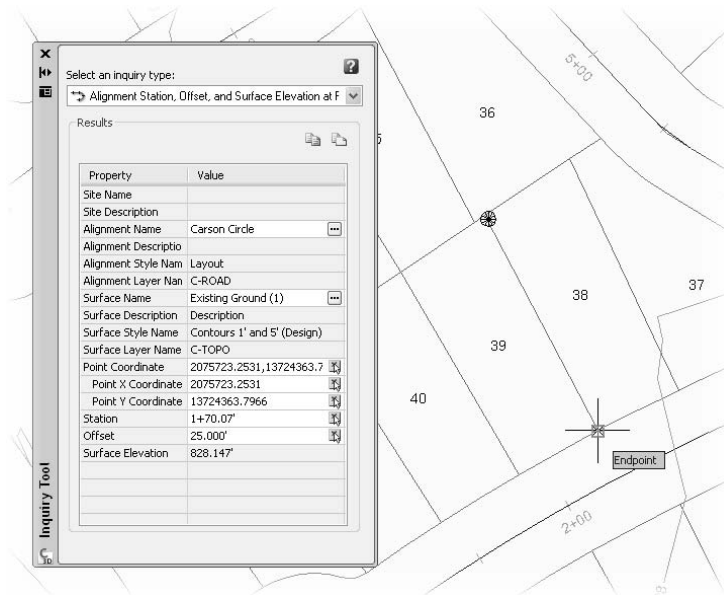

Figure 2.9
5. Use the Pick on Screen button in the Point Coordinate row to select the front point on the lot line splitting Lots 38 and 39. Your palette should look like Figure 2.9.